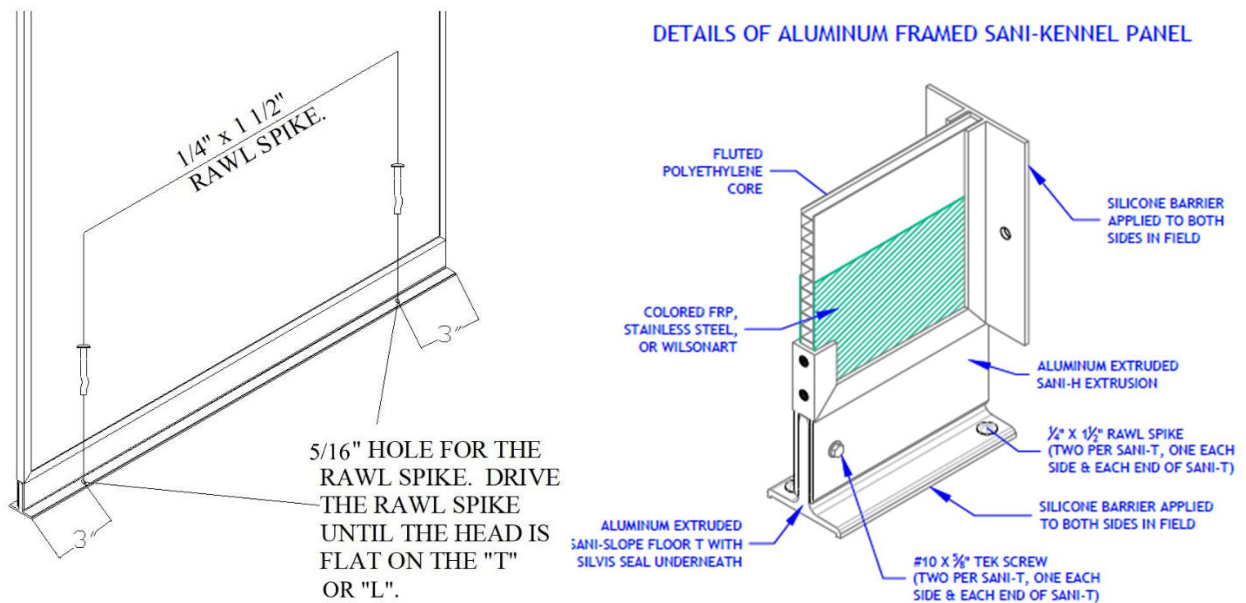

Figure 23
3. Repeat steps H-1 and H-3 for all hole locations shown in Figure 23.
2. Apply a thin bead of sealant provided along the seam created between the “Sanislope T” and the concrete as shown in Figure 23.